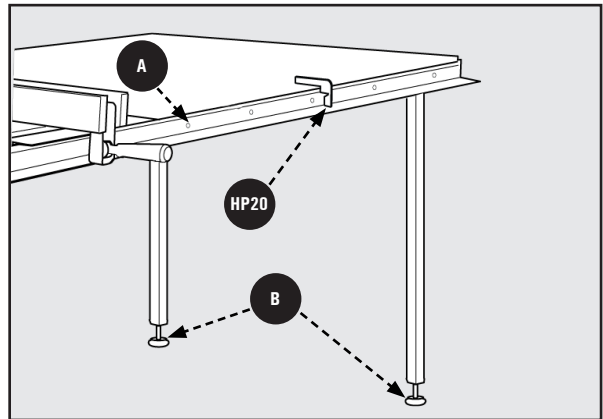

Figure 13
- Drill 1/4 inch holes through the rail holes **A** into the wood table on the front and back rails. See Figure 13.